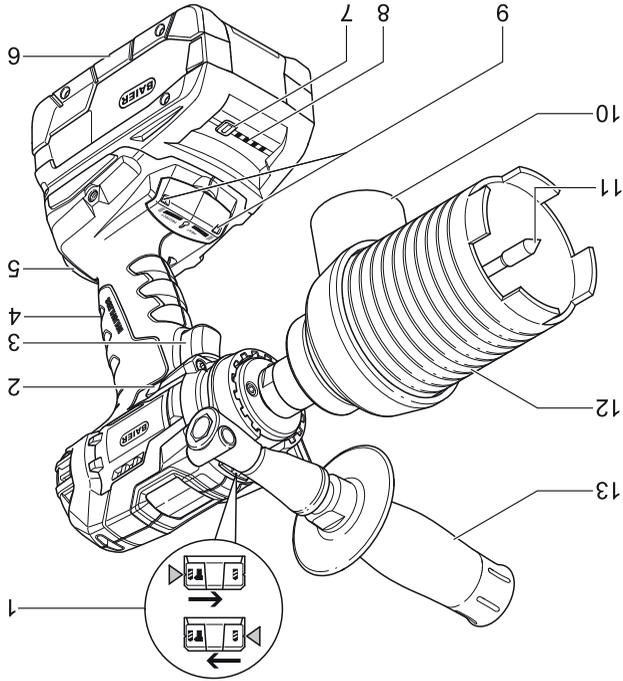

Fig. 1: Product structure
- the two overheating protection LEDs (9) light up red (→ Fig. 1: Product structure: Page 20).